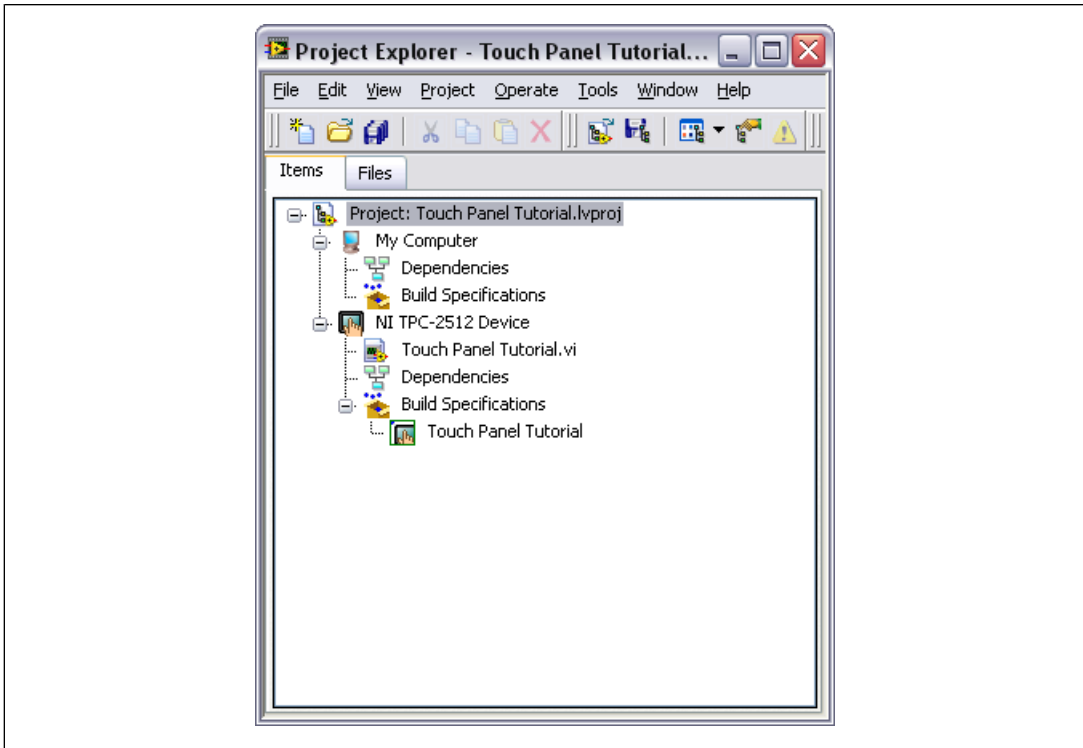

Figure 17. Project Explorer Window
6. Click the **OK** button. The build specification you created appears in the **Project Explorer** window under the Touch Panel target, as shown in Figure 17.